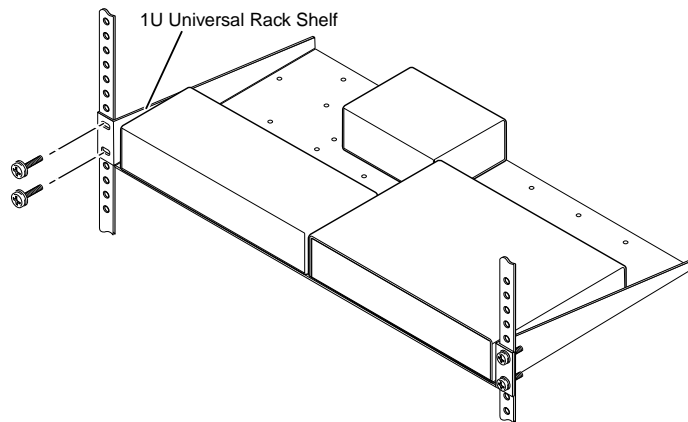

Figure 6. Mounting the Unit on a Universal Rack Shelf
- RSU 129 9.5-inch deep universal rack shelf kit (part #60-190-01). See figure 6.